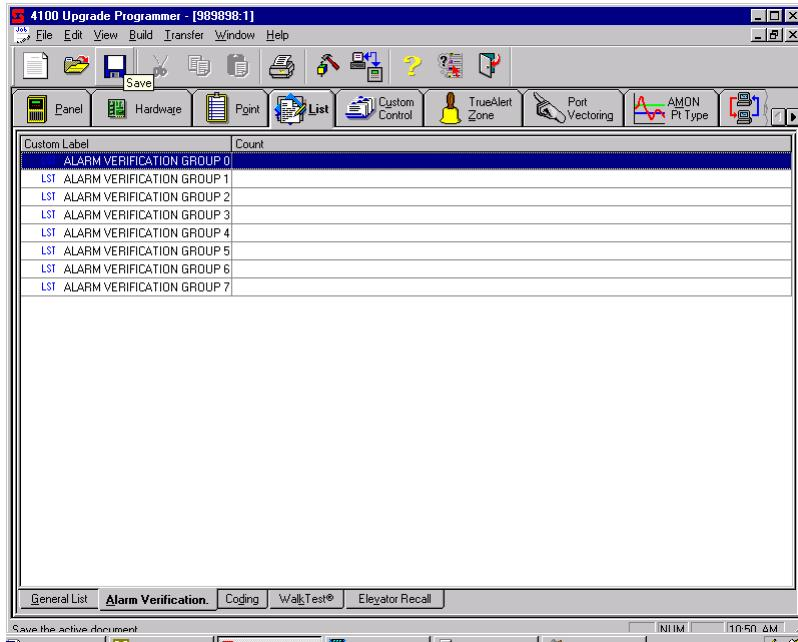

Figure 8-3. Alarm Verification Tab
2. Click on the Alarm Verification tab at the bottom of the List Window. A screen similar to the one shown in Figure 8-3 appears.